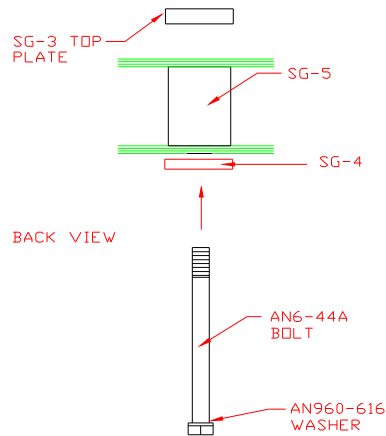

Figure 10.3.2
- 2) Use an AN6-44A bolt to position a SG-3 Top Plate and a SG-4 Bottom Plate. Position them 90° to the FUS-5 Carrythrough. Drill the #11 holes through the Skins, Doublers and one side of the Carrythrough. Figure 10.3.2.